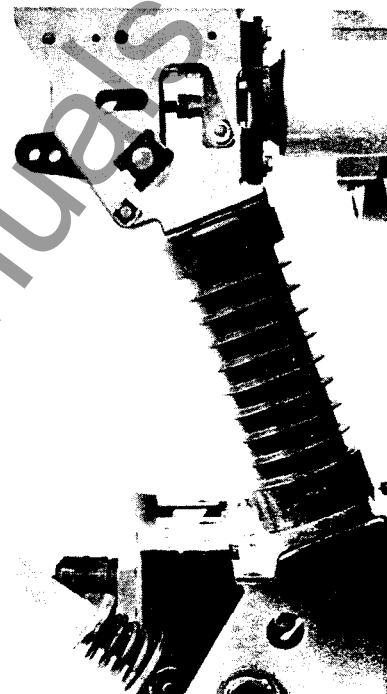

Figure 11. Procedure to Check Vacuum
- A) Isolate and open the breaker then detach the insulated coupler 48 from lever 48.6. See Figure 11.
- B) The atmosphere pressure will force the moving contact of a hermetically sealed interrupter into the closed position, causing lever 48.6 to move into the position shown in Figure 11. An interrupter that has lost its vacuum will not move closed after being forced open.